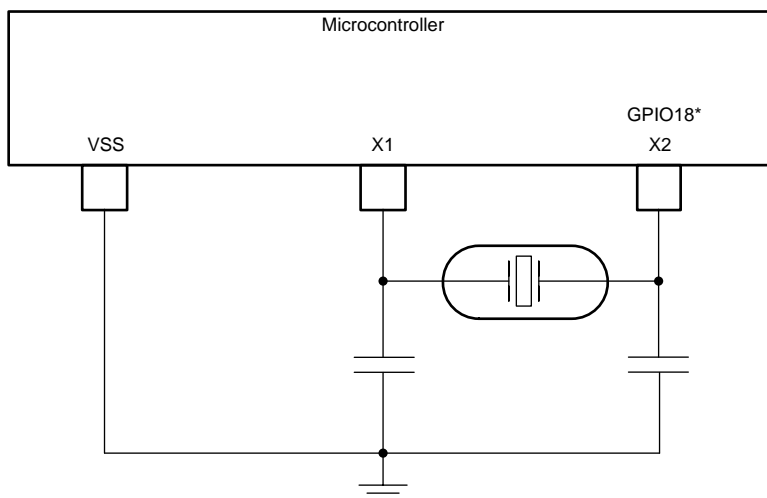

Figure 5-12. External Crystal
- An external crystal. The crystal should be connected across X1 and X2 with its load capacitors connected to VSS as shown in Figure 5-12.